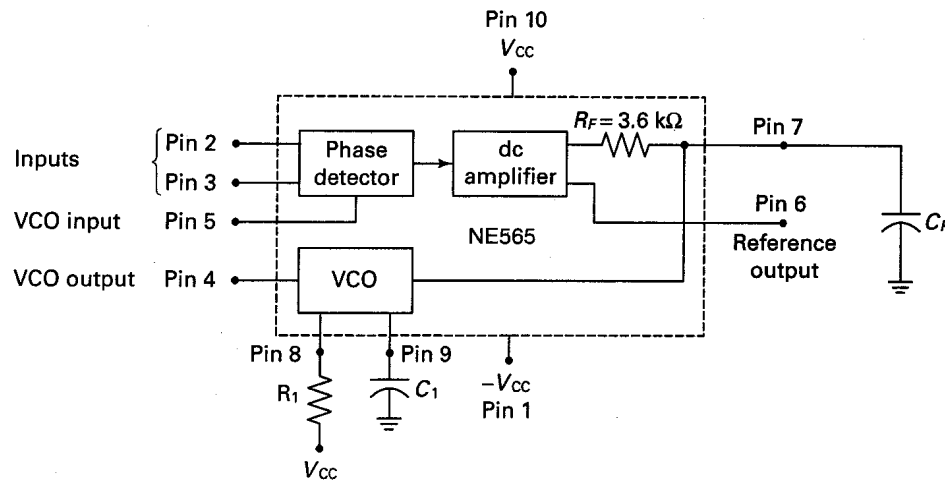

Fig. 2-13
Figure 2-13 shows the block diagram of an NE565, which is a 14-pin PLL integrated circuit (IC). The NE565 is designed for dual-supply operation and can operate with supply voltages from  $\pm 5$  V to  $\pm 12$  V. In Fig. 2-13 a positive voltage  $V_{CC}$  connects to Pin 10 and  $-V_{CC}$  connects to Pin 1.